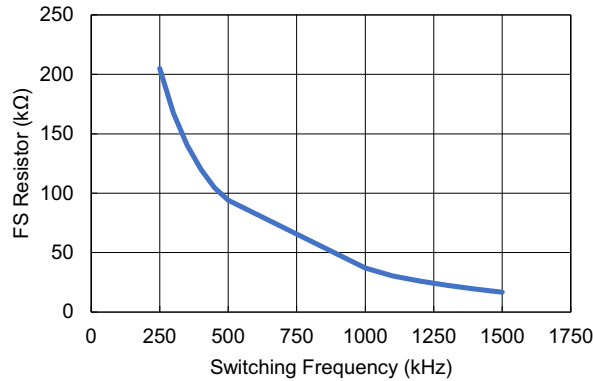

Figure 53. RFS vs Frequency
**IMPORTANT:** Equation 3 approximates the real data presented in Figure 53. The data used for Figure 53 is typical, and there is some variation because of temperature and variation. This variation is shown in the electrical specifications table by providing four fixed resistors and the frequency and tolerance achieved with those resistors.